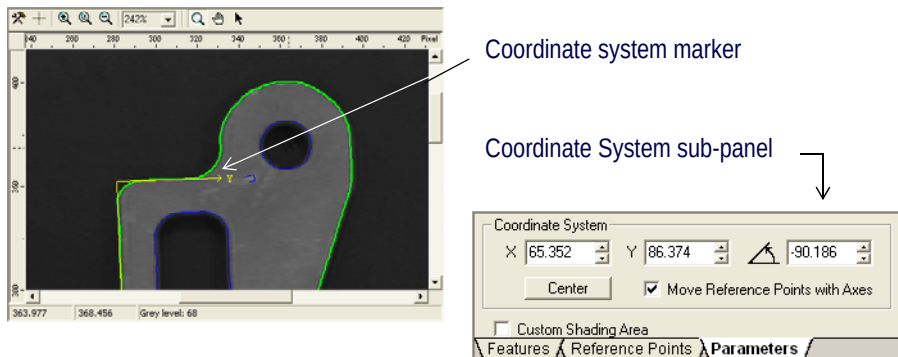

Figure 24 Adjusting the Position and Orientation of the Model Coordinate System
3. Use the mouse to position the coordinate system marker (yellow axes) over the object, as shown in Figure 24.